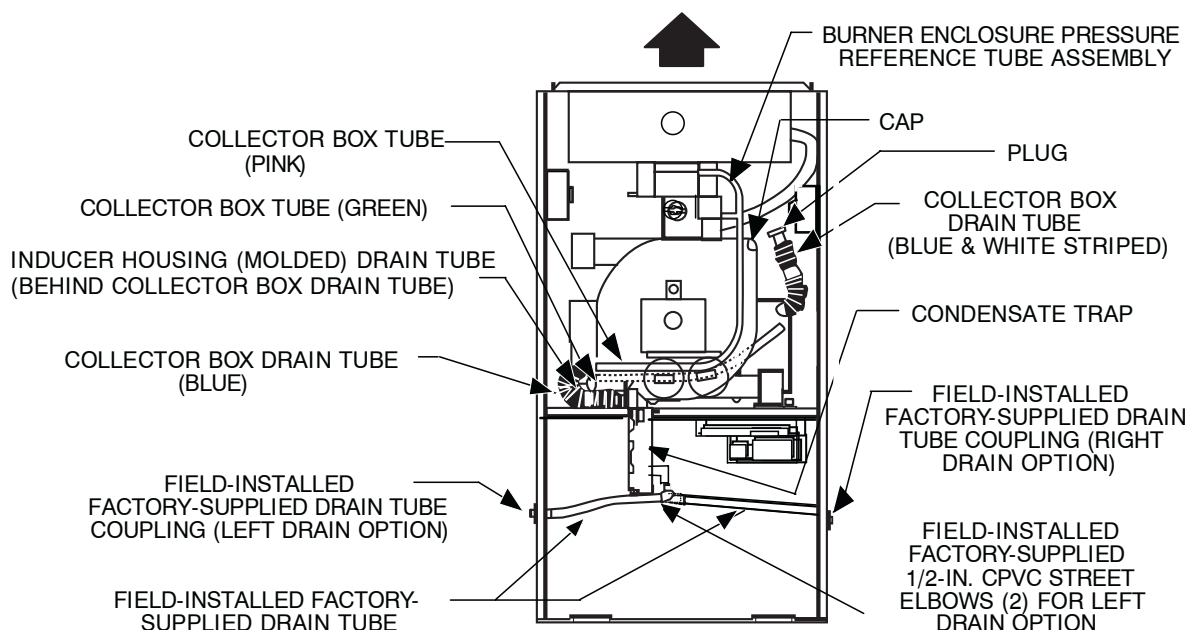

Fig. 5 – Factory-Shipped Upflow Tube Configuration
5. If condensate trap is located in left- or right-hand side of furnace casing, proceed to item 6. Otherwise remove trap and tubing as described below (See Fig. 5.):
- b. Connect condensate trap drain tubes. See Fig. 5 or tubing diagram on main furnace door for proper tube location.